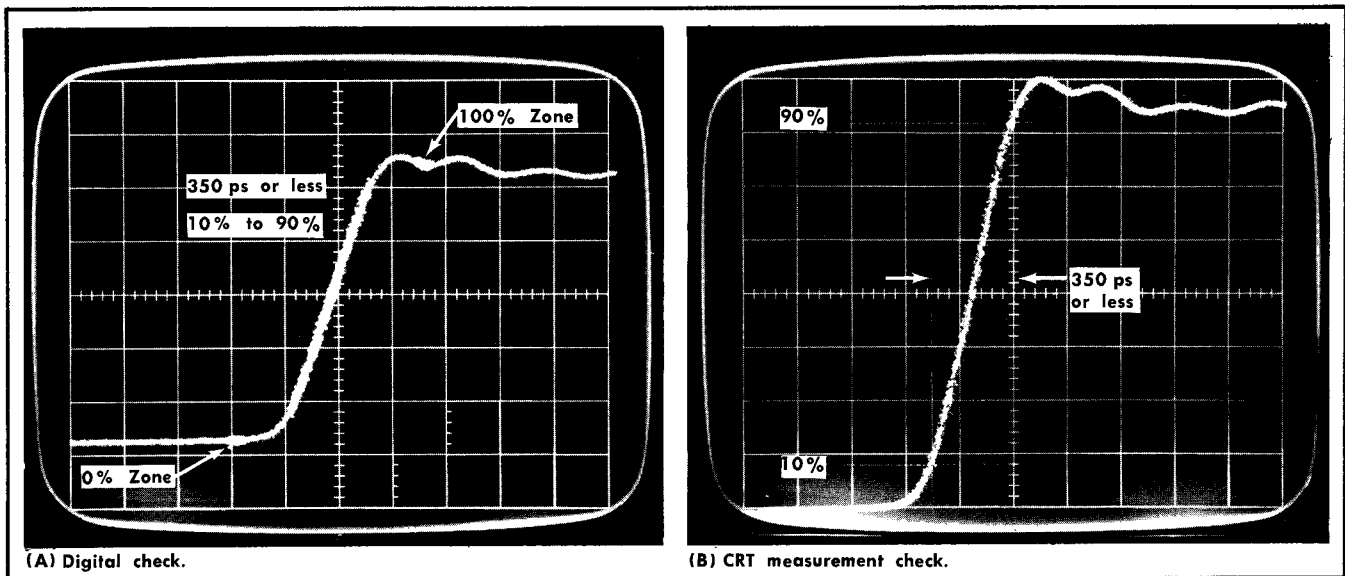

Fig. 5-7. Risettime measurement displays.
c. Once a pulse display is obtained, position it and the digital unit 0% and 100% zones as shown in Fig. 5-7. Read the risetime from the digital unit. With the Type 3T2 Time Magnifier at  $\times 50$  for 200 ps sweep rate, 350 ps will be read as  $+0.350$  NS.